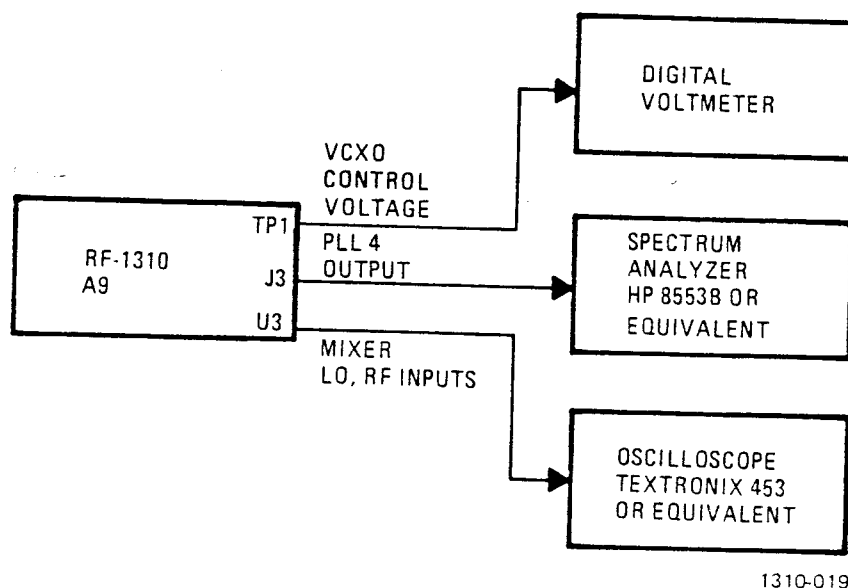

Figure 2. X2 Multiplier, LO, and RF Amplifier Alignment
- a. Connect equipment as shown in figure 2.